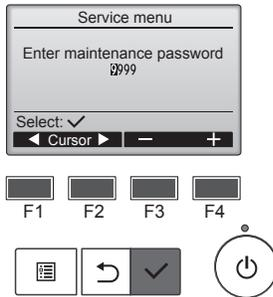

Fig. 6-2
- ① Select "Service" from the Main menu, and press the button.
- ② When the Service menu is selected, a window will appear asking for the password. (Fig. 6-2)